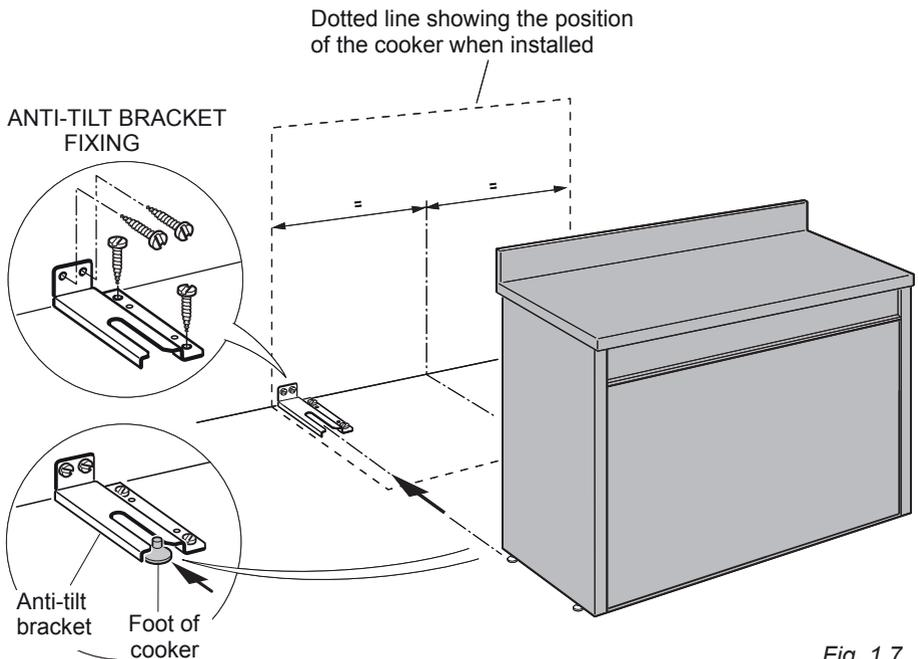

Fig. 1.7
1. After you have located where the cooker is to be positioned, mark on the wall and on the floor the place where the four screws of the anti-tilt bracket have to be fitted. Please follow the indications given in fig. 1.7.
3. Loosely attach the anti-tilt bracket with the 4 screws supplied (fig. 1.7).
4. After attaching the anti-tilt bracket securely, slide the cooker into place. Ensure that the rear left foot slides under the bracket, as shown in fig. 1.7.